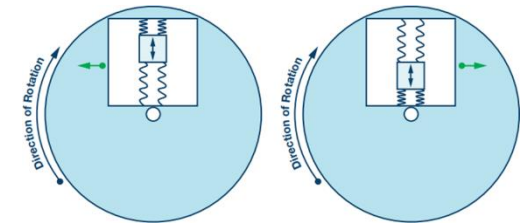

Figure 2
- If you have a mass (M), the platform must apply a force— $2M\Omega v$ —to cause that acceleration
- Figure 2 shows that when the resonating mass moves toward the outer edge of the rotation, it is accelerated to the right and exerts on the frame a reaction force to the left. When it moves toward the center of the rotation it exerts a force to the right, as indicated by the green arrows.